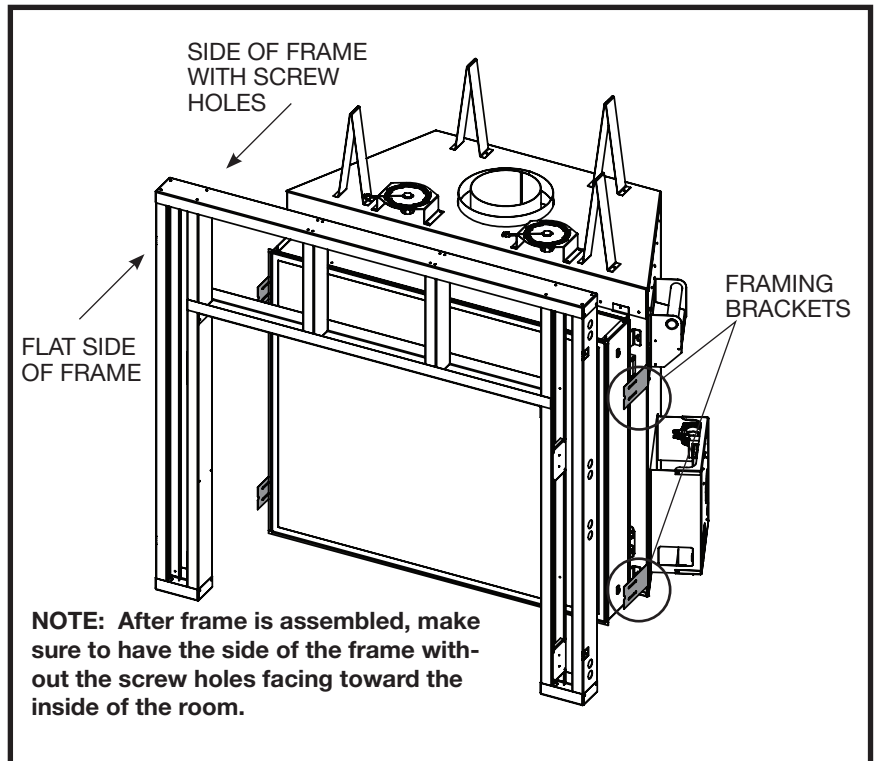

Figure 15: TC42 body with steel frame.
Align the assembled frame to the unit framing brackets (Figure 15). Align the framing plates (8) to the fastening points through the access holes in the outer side studs (3).